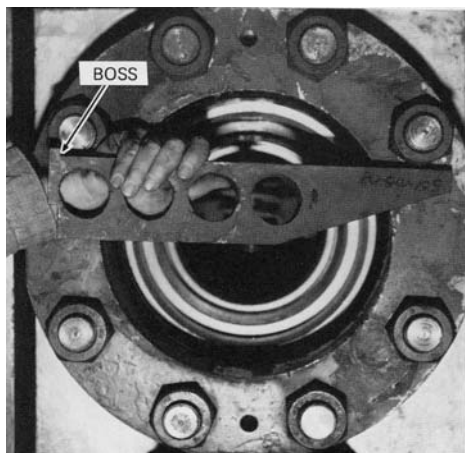

Figure 4-9 Installing suction valve retainer
6. Push valve guide down and install wedge-shaped retainer in slot valve guide. (Figure 4-9)